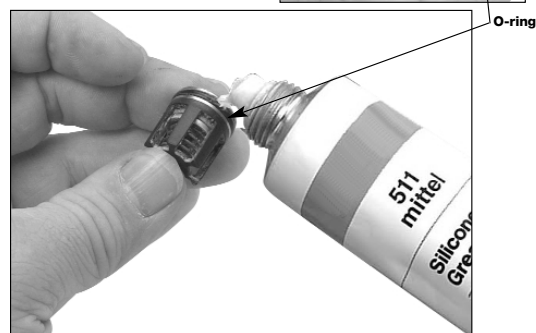

figure 37
4. Grease O-rings lightly with silicone grease and reassemble. (figure 37)